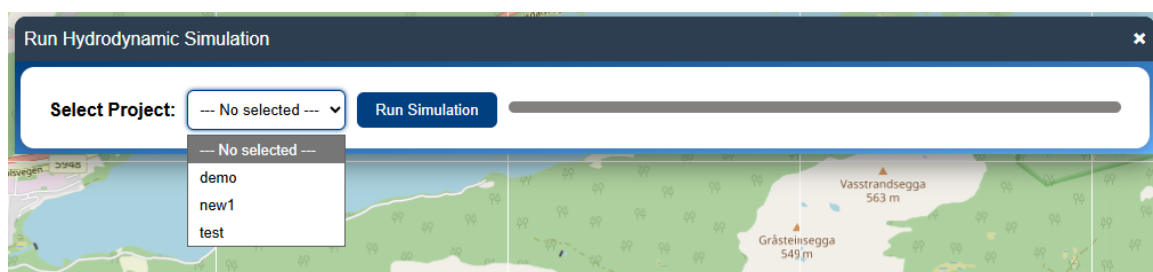

Figure 3.7. Select scenario to run HYD simulation
- To run a HYD scenario, select *Project Management/Run HYD Simulation*. You can see a window allow selecting scenario to run (Figure 3.7).